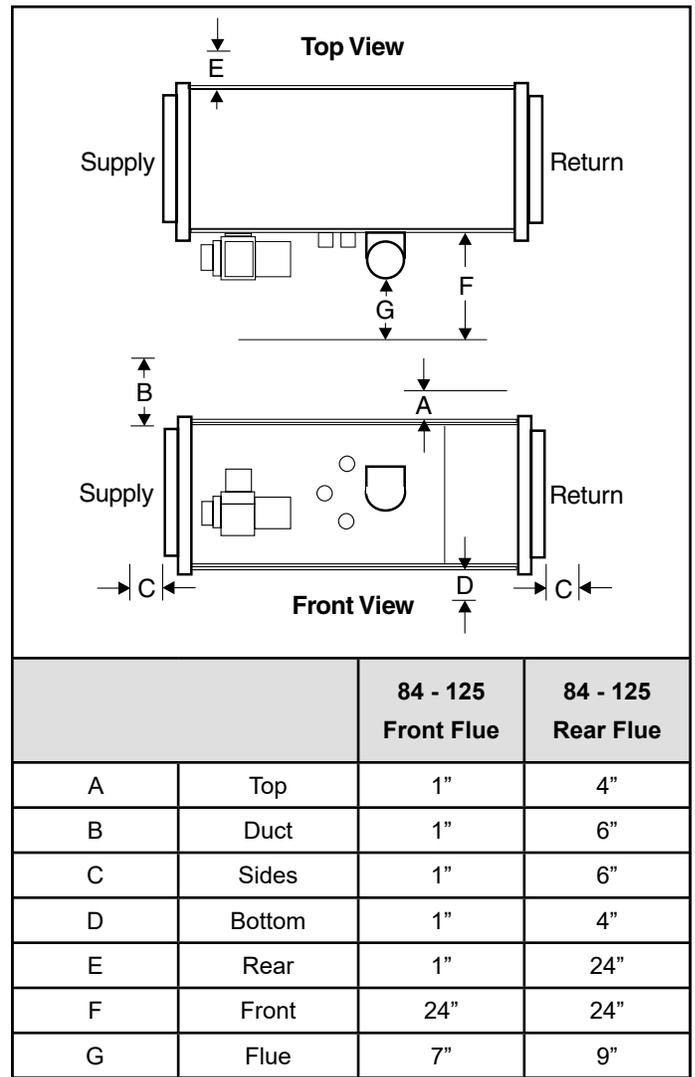
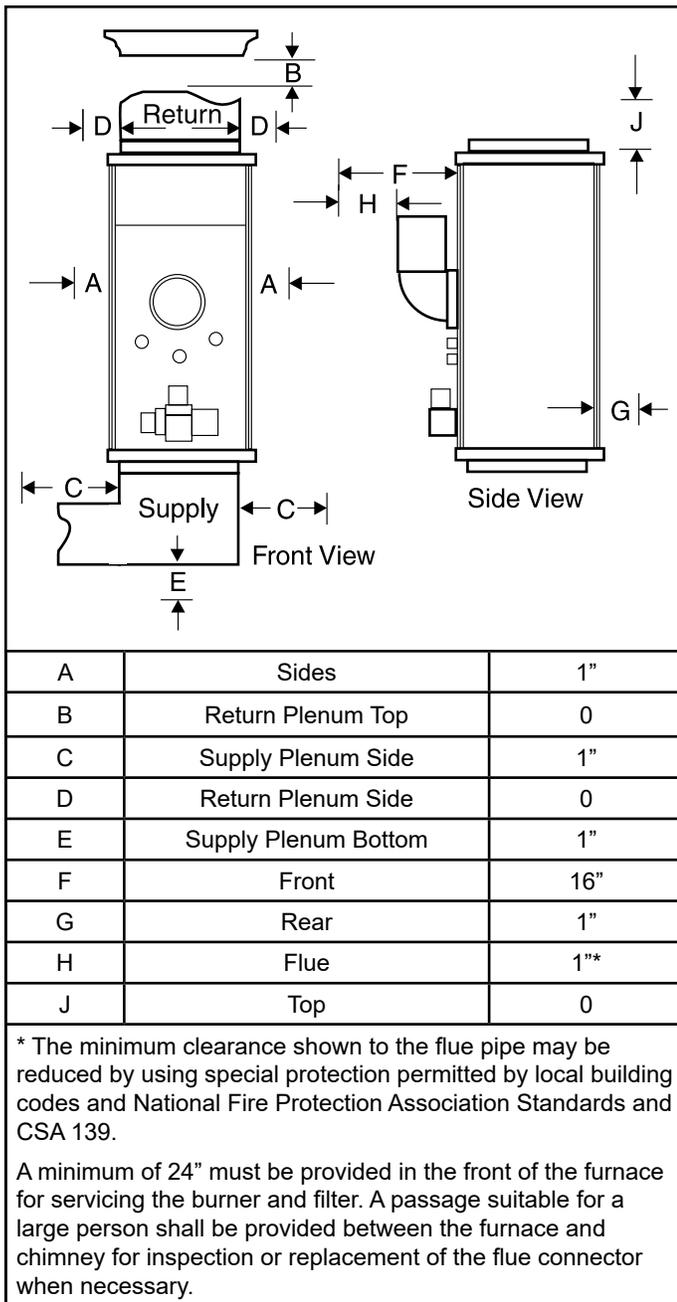

Figure 2. Minimum Clearances - Horizontal Installations
Figure 3. Counterflow (Closet Installation)
See Table 1 for a complete listing of the minimum clearances required for basement type and upflow installations. See Figure 2 for the minimum clearances required for horizontal installations and Figure 3 for the minimum clearances required for counterflow installations. **When accessibility clearances are greater than fire protection clearances, the accessibility clearances take precedence.**
3. Refer to Figure 3 for minimum clearances required.